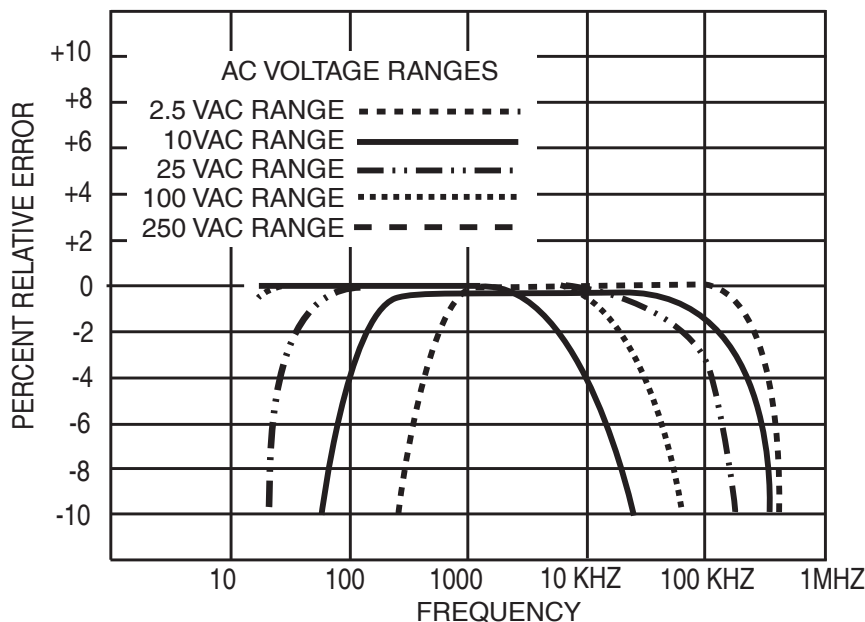

Figure 4-1. Typical Frequency Response, AC Voltage Ranges
**NOTE:** The Simpson 260-6XLM responds to the full-wave average value of an AC waveform. They are calibrated in terms of the RMS value of a pure sine wave. If the waveform is nonsinusoidal, the reading might be either higher or lower than the true RMS value, and could result in a substantial error. Also, accuracy is lessened at higher input frequencies (Figure 4-1).